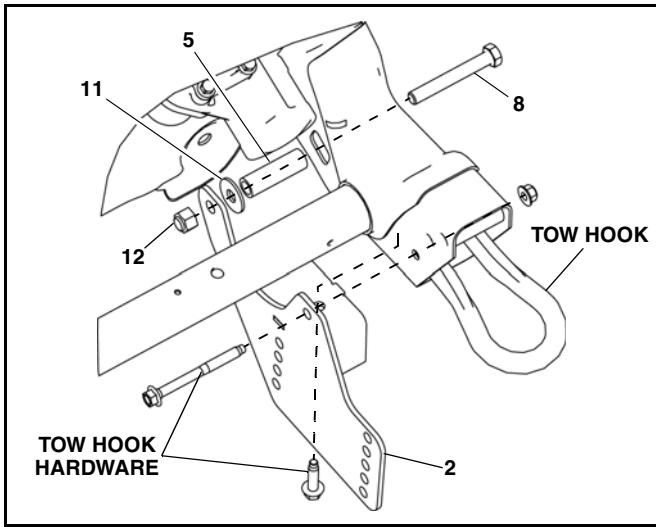

Figure 1
4. Insert (1) of item #8 through the hole opposite the square cut out on the driver side frame rail. (See Figure 1.)
5. Slide (1) of item #5 & #11 over item #8, while item #8 is within the truck frame